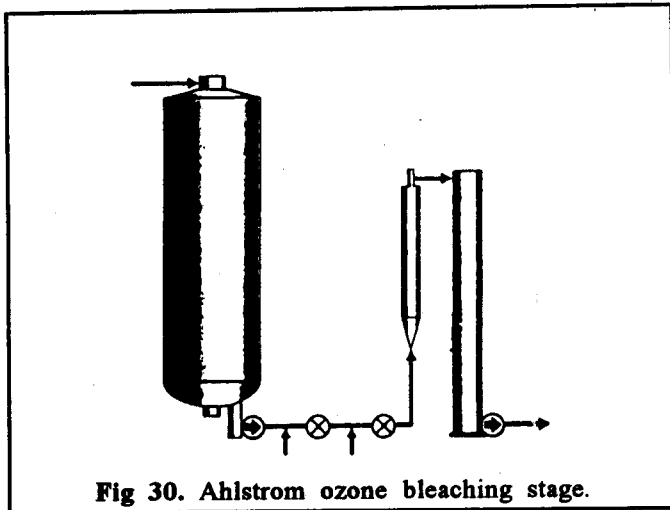

Fig 30. Ahlstrom ozone bleaching stage.
The ozone containing gas is mixed into the stock in a fluidizing large volume AMZ Mixer. Typically two AMZ Mixers are installed in series in an ozone bleaching stage (Fig.30). The reactions between ozone and the fiber material are very fast; practically all reactions important from the point of view of delignification occur in the mixers. The AMZ Chemical Mixer has high shear sections that increase the contact area between the fiber flocs and the ozone gas. Gas separation is effectively prevented and mixing intensity is kept extremely high also with high gas volumes. Special attention has also been paid to minimizing the pressure losses in the AMZ Mixer as the gas volumes quickly increase if the pressure is reduced.
- Fig.30. **Ahlstrom ozone bleaching stage.**